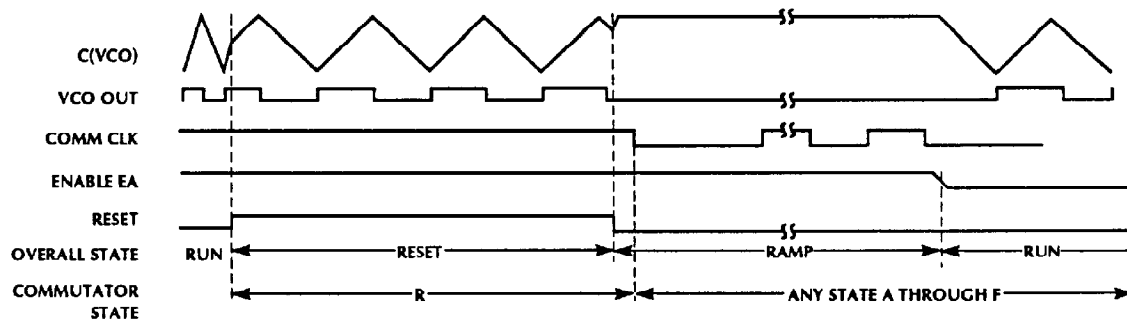

Figure 5. Start up sequencing (from stop)
Note 1. For explanation of states, see Figure 5 and Table 1.
- STEP 1 The IC is held in reset state until the platters are steady by setting pin 17 and pin 19 to a '1', with full power applied to the winding (see figure 5). This aligns the rotor to a position which is 30° (electrical) before the center of the first commutation state. Pin 20 is held at 0.5V internally. Microprocessor needs to measure VCO frequency by setting pin 27 to a '1' and then store it.